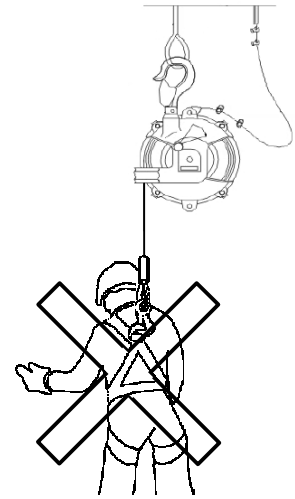

Fig. 3
- Do not use the spring balancer for transportation of people (Fig. 3).